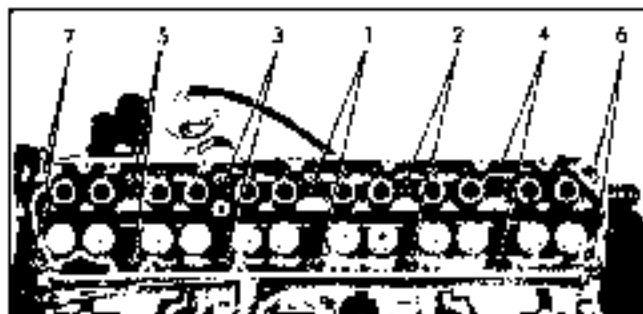

Fig. 6-27 Cylinder Head Bolt Tightening Sequence
4. Tighten cylinder head a little at a time with a torque wrench. Tighten center bolts and then end bolts (Fig. 6-27). The final torque should be 95 ft. lb.